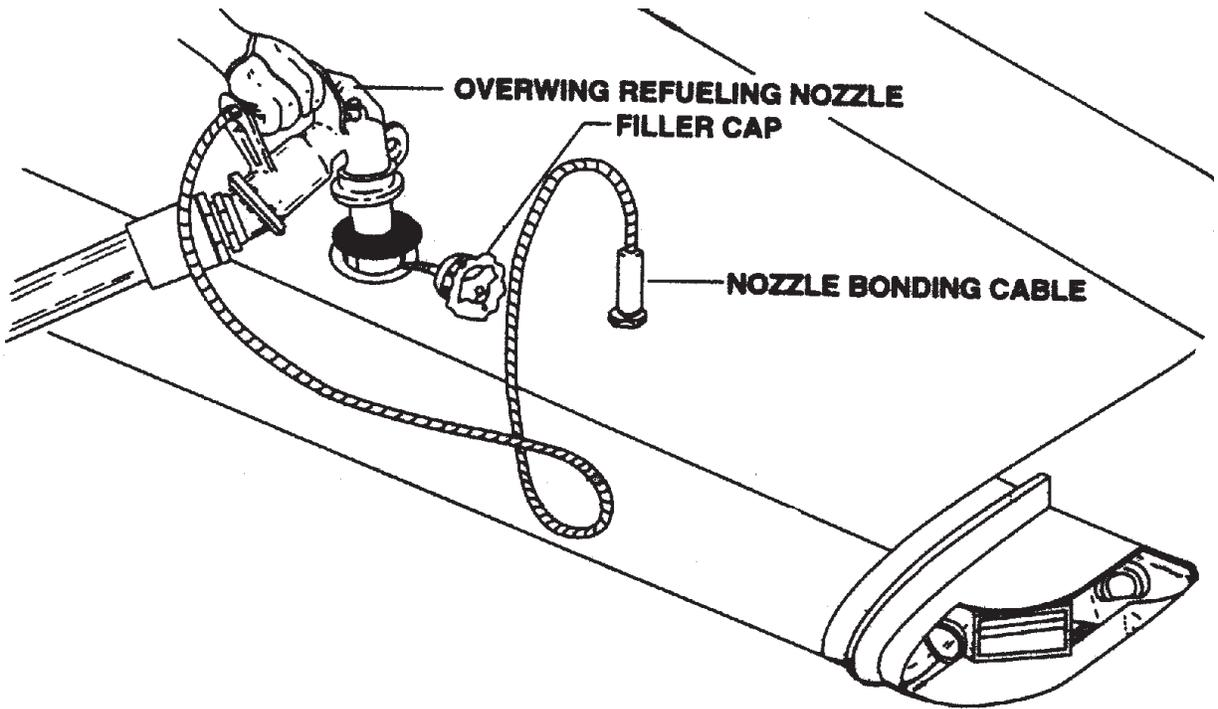

Figure 3-31.—Grounding an overwing nozzle.
2. Ground the overwing nozzle to the aircraft as shown in figure 3-31 and then remove the filler cap from the aircraft.